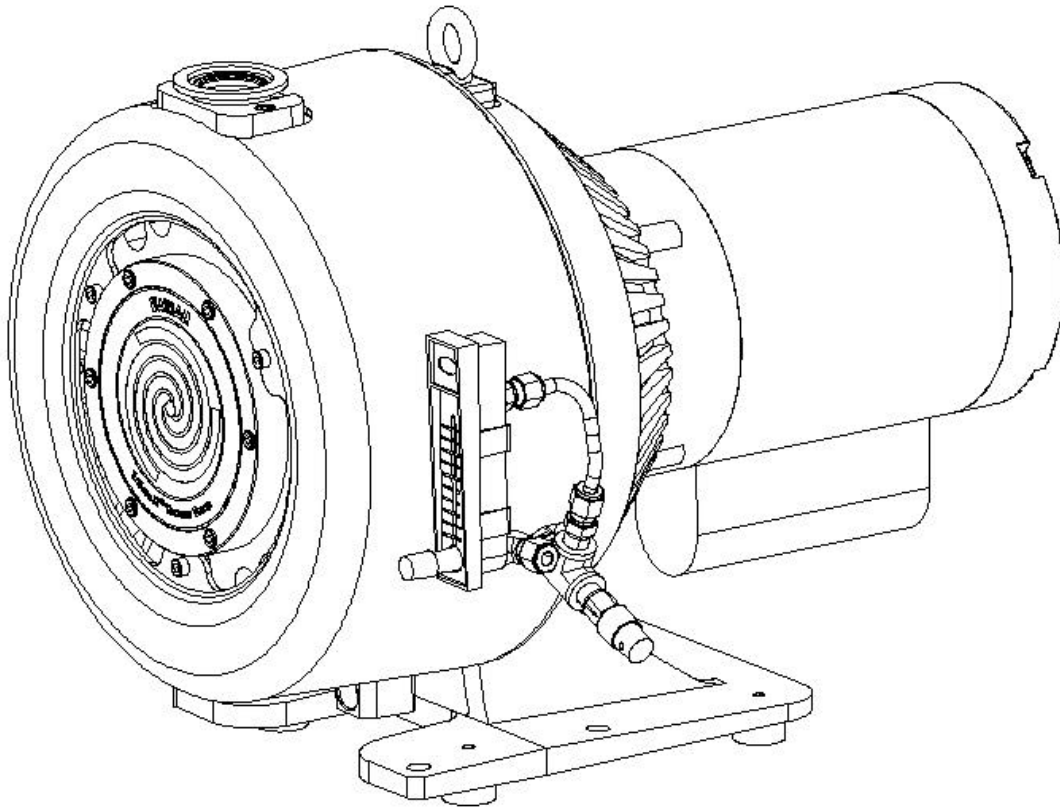

Figure 2. Bearing Purge Installation
2. Install the Tee Subassembly into the Bearing Purge Port. Tighten moderately until the Swagelok fitting is pointing up as shown in Figure 2.